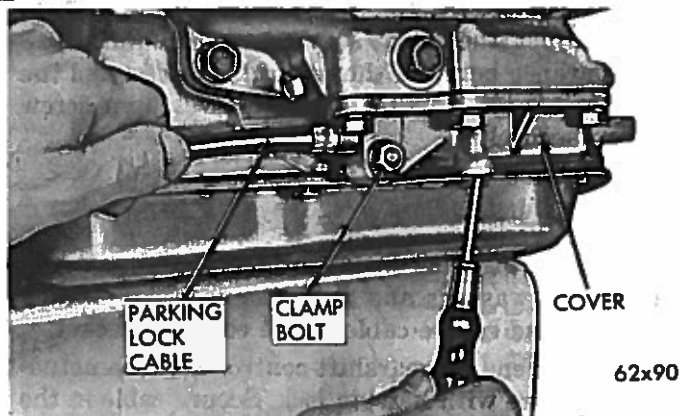

Fig. 13—Installing Parking Lock Cable
(3) To install the cable, have an assistant hold parking lock lever (on instrument panel) in the OFF position.
(4) Insert screw driver through plug opening and position it behind the cable adapter stop washer (Fig. 13). Hold the adapter outward while pushing the cable in as far as possible, making sure lock-spring engages cable.
(5) Gently pull outward on cable housing to its limit of travel, release and then tighten the clamp bolt to 10 inch-pounds torque. Reinstall plug in cover and tighten to 75 inch-pounds torque.